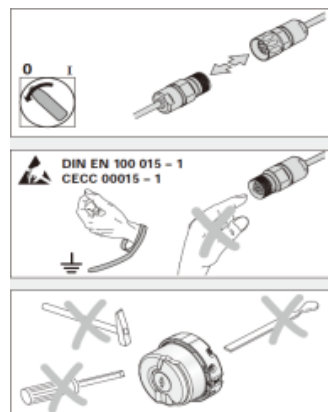

Fig.7 Precautions for encoder's installation and dismantling
- The traction machine's pedestal provides itself with grounding bolts. These bolts are connected with protective leads and grounding leads according to VDE0100 and VDE0141 or corresponding national standards. Onto The brake system used respectively in accordance with VDE0100 and VDE0141 or the standard connection, protection and grounding wire brakes are installed on a delay element, namely, diodes resistors in series. IN5408 + 150 Ω resistor is comprised of IN 5408 diode resistor and 5W105Ω cement resistor in series, as shown in Fig.7. It is designed to reduce the inverse voltage that occurs when the brake's inductive coil suddenly blacks out;
- The machine must be shut down and power be turned off when an encoder is installed, examined or replaced. Moreover, qualified staffs are required to carry out operations. Measures such as wearing effectively grounded wrist strap (3M recommended), as indicated in Fig.7 on P12;